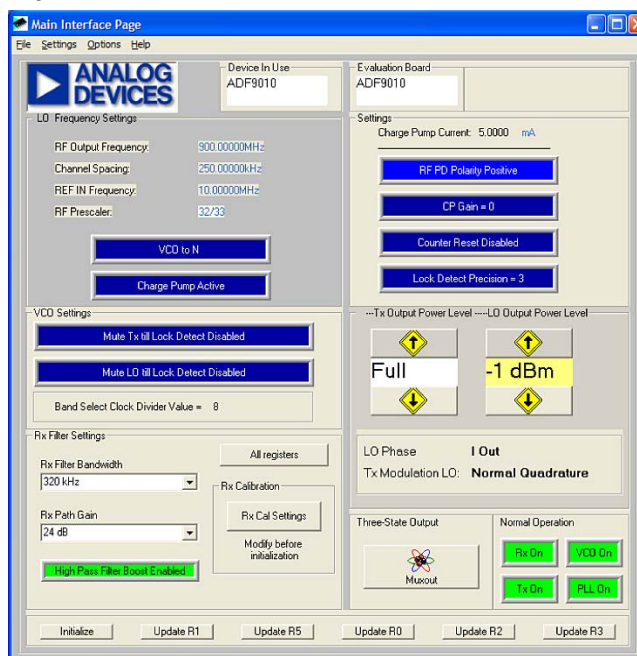

Figure 6. Software Front Panel Display
4. The **Main Interface Page** window appears (see Figure 6).
It may be necessary to adjust the Tx output power level and the LO output power level to optimize operation. These settings are displayed in the **Main Interface Page** window (see Figure 6).